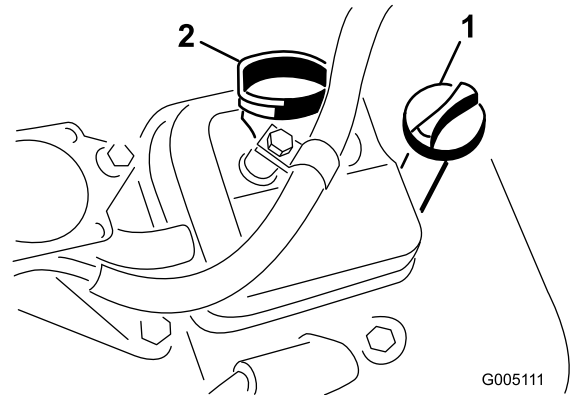

Figure 22
3. Screw the dipstick into the tube and make sure it is seated fully (Figure 22).